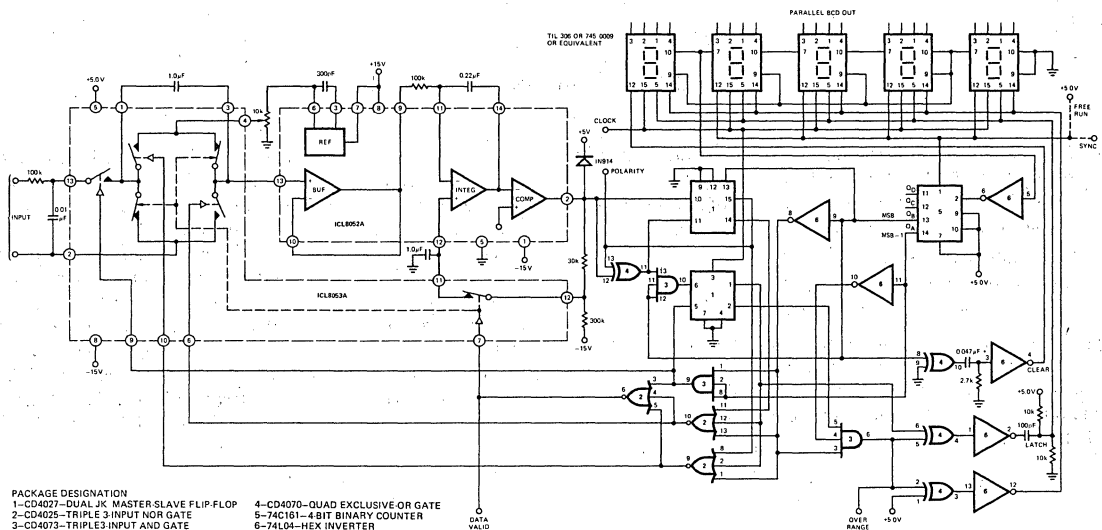

FIGURE 5. GENERAL CIRCUIT FOR A FAMILY OF DVM's.
(1) Tested in 3 1/2 digit (2,000 count) circuit shown in Fig. 5 clock frequency 12 kHz.
(2) Tested in 4 1/2 digit (20,000 count) circuit shown in Fig. 5 clock frequency 120 kHz.
Figure 5 shows the complete circuit for a 4-1/2 digit ($\pm 2.000V$ full scale) A-D with LED readout and parallel BCD data lines. In addition to the 8052/8053, this circuit uses 6 low-cost CMOS packages for control and 5 TIL 306 as a combination LED readout, synchronous counter, and BCD latch. In this circuit, the clock runs continuously driving the 5 decade counters in the TIL 306's. The carry from the fourth decade is used to trigger the state F-F. Thus, each of the four states lasts for 10,000 counts. At the beginning of state 10, the 5th decade is cleared. None of the other counters need to be cleared since they automatically roll to 0000 at this point. When the zero-crossing F-F detects the end of the measurement, a latch pulse is initiated. The R-C time constant of this pulse is selected long enough (50nSec) to assure the latches turn on, but short enough (3 μ Sec) to assure that the latches are de-
In figure 5, the lines marked (MSB) and (MSB-1) are connected to Q_B and Q_A of the 4-bit state flip-flop respectively. This forces a change in state for each carry pulse (10,000 counts) from the decade counters. If the lines were moved to Q_C and Q_B respectively, two carry pulses (20,000 counts) would be required to change states. Since full-scale is two states long, the max count now becomes 40,000; (actually 39,999). Similarly if Q_D and Q_C are used the max count is now 7,999 (one less decade counter would be used in this case). The ability to easily change max count (full scale) is most useful where the A-D converter is measuring physical constants such as temperature, distances, weight, etc. It allows designer to match the digital reading of the instrument to the analog range of the transducer. Since the analog input required to generate full scale output is $2V_{REF}$ in every case, an almost endless variety of scale factors can be generated easily from one
Specific circuits demonstrating this principle are shown in figures 5 and 6. An 800.0mV full scale A-D can be obtained from the 2.0000V instrument shown in figure 5 with the three following modifications: